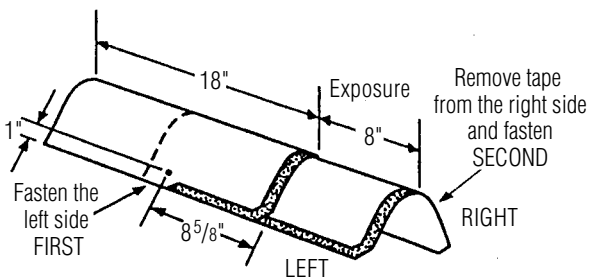

Figure 16-19: Installation of Shangle® Ridge shingles on hips and ridges.
- Fasten each cap with two fasteners (Figure 16-19). The fasteners must be 1³/₄" long, or longer, so they penetrate either ³/₄" into the deck or completely through the deck, exposing at least ¹/₈" of the tip of the nail. Expose 8" of the Accessory along the ridge or hip line and cover all fasteners.